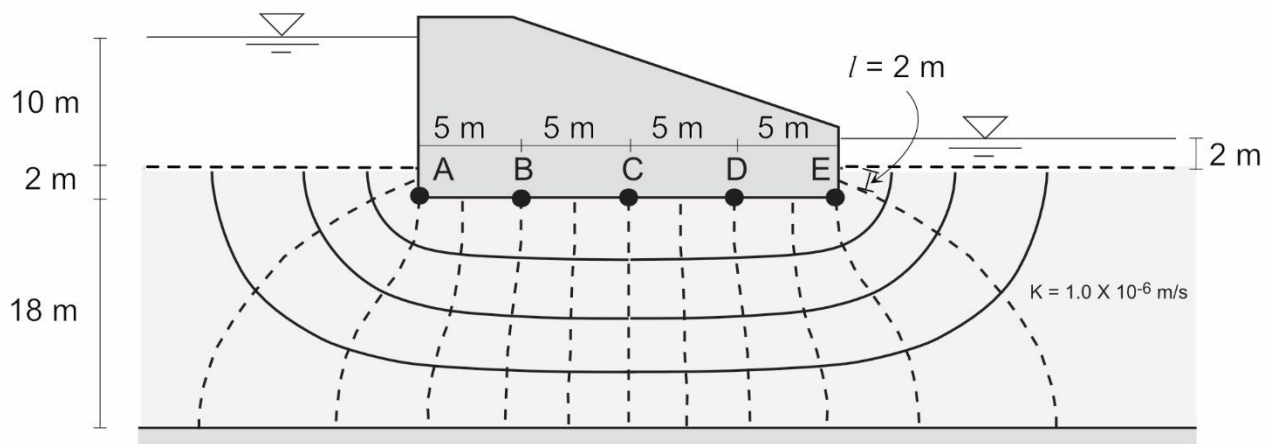

Fig. Q5.1.
Fig. Q5.1 shows the flow net under a concrete dam. The height of water behind the dam is **10 m** while in front of the dam it is **2 m**. The hydraulic conductivity of the foundation soil **$K = 1 \times 10^{-6}$ m/s** and the unit weight of water **$\gamma_w = 10$ kN/m³**. Using the given flow net, you are asked to:
- Knowing that the saturated unit weight of the soil is **21 kN/m³** and the length of the flow net square at the exit is **$l = 2$ m** (see Fig. Q5.1), assess the **danger of piping**. (5p)